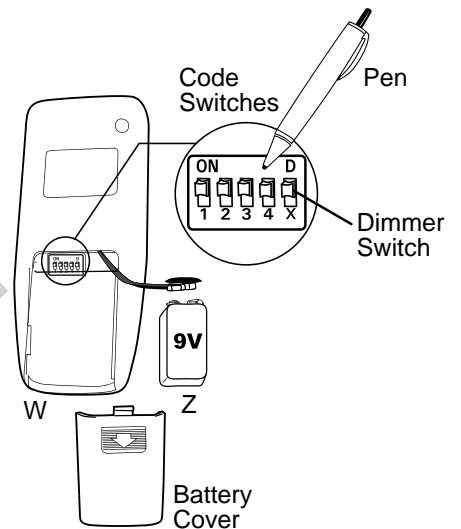

Fig. 1
3. Locate dimmer switch to the right of the code switches labeled with a "D" and an "X". [Fig. 1] Set dimmer switch to the "ON" (D) position only if using incandescent bulbs. Set dimmer switch to "OFF" (X) position if using compact fluorescent bulbs.
6. Replace battery cover on remote control transmitter (W). [Fig. 1]
1. Operation buttons on the panel of the remote control transmitter (W) [Fig. 1]: